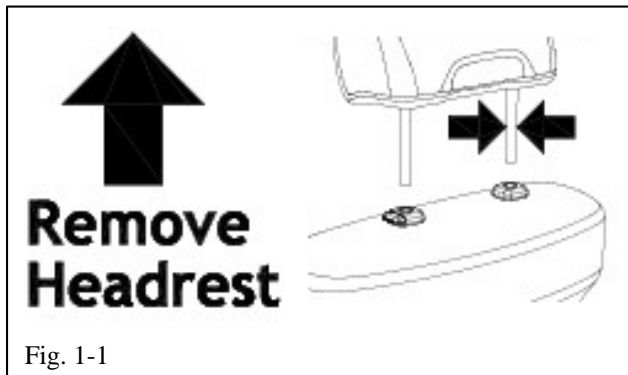

Fig. 1-1
- (a) Remove the front head rest (Fig. 1-1).
- (b) Measure the head rest strut diameter (Fig. 1-1).